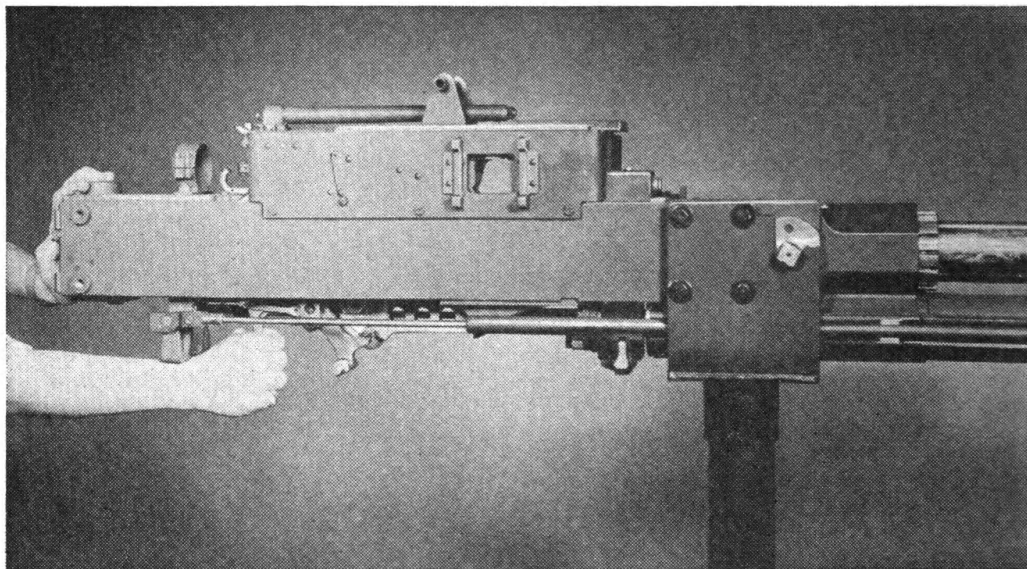

FIGURE 20.—Retracting lock frame.
16. Breechblock.—*a. To remove.*—(1) Retract the lock frame (fig. 20).